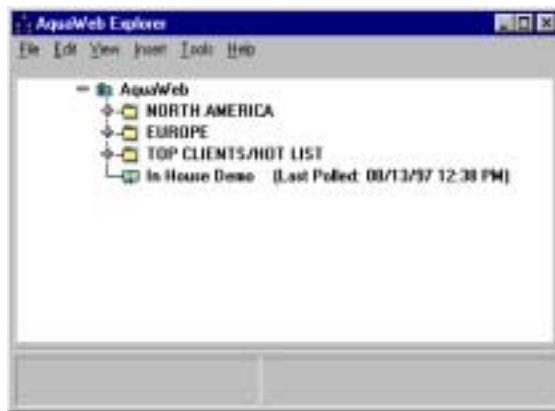

Figure 5.7 AquaWeb “Tree list”
4. Click OK on the login screen to open AquaWeb. AquaWeb is ready when you see a sample Network map displayed as a "tree" list (Fig.5.7)